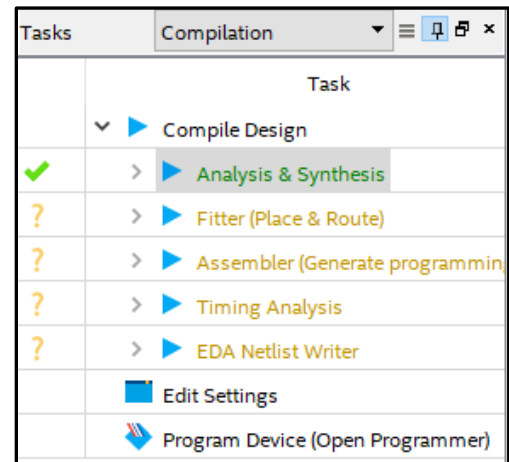

Figure 6: Functional Compile Complete
- To functionally compile your design, double click the “Analysis & Synthesis” in the Compilation window shown in Figure 6. Figure 6 shows the result of the Functional Compiling.